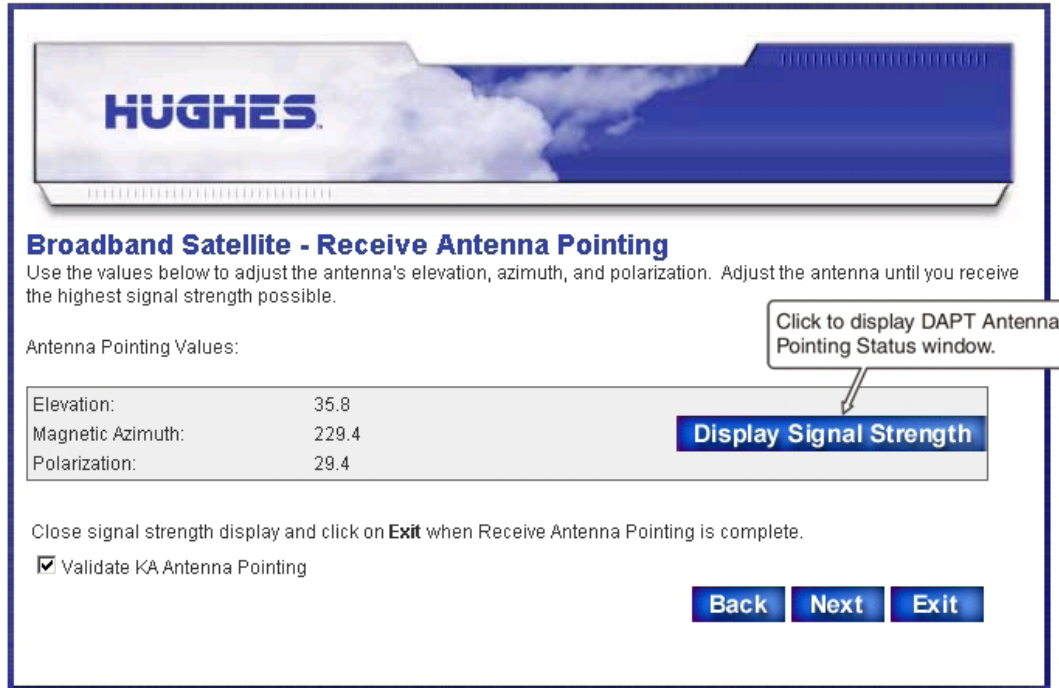

Figure 27: Receive Antenna Pointing screen
- On the Receive Antenna Pointing screen, click **Display Signal Strength** (Figure 27: Receive Antenna Pointing screen on page 38) to open the DAPT Antenna Pointing Status window.